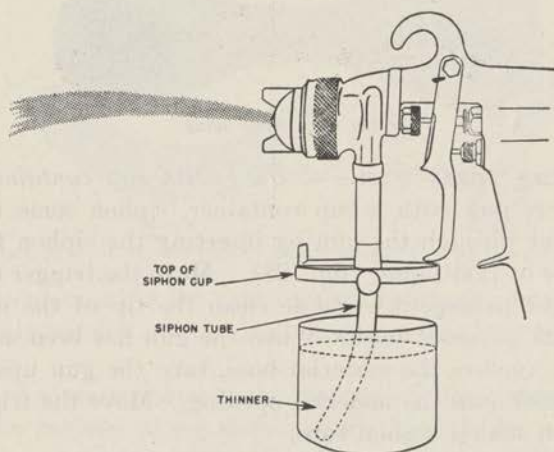

FIGURE 128.—Cleaning spray gun used with cup.
31. Cleaning spray gun.—*a. Used with cup container.*—When using the spray gun with a cup container, siphon some thinner or suitable solvent through the gun by inserting the siphon tube in an open container of that liquid (fig. 128). Move the trigger constantly to flush out the passageway and to clean the tip of the needle.